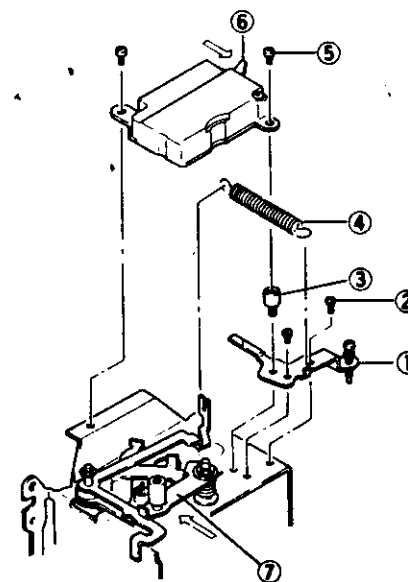

Fig. 16
- 7) Set the Mg BASE PLATE (No. 1 in Fig. 16) and tighten two SCREWS (No. 2).